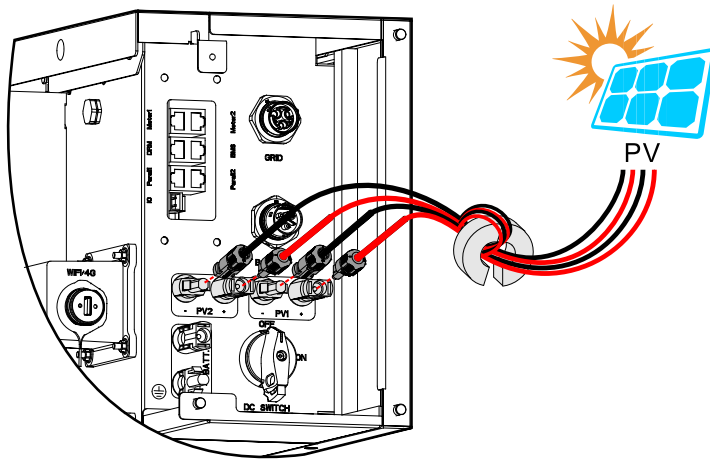

Figure3-42 Connect the PV connector
- Step 6 Insert the positive connector and negative connector (black) to the PV+ and PV- terminals (as shown in Figure3-42) and tighten them. If there has a click sound, it means that the connector have been inserted properly.